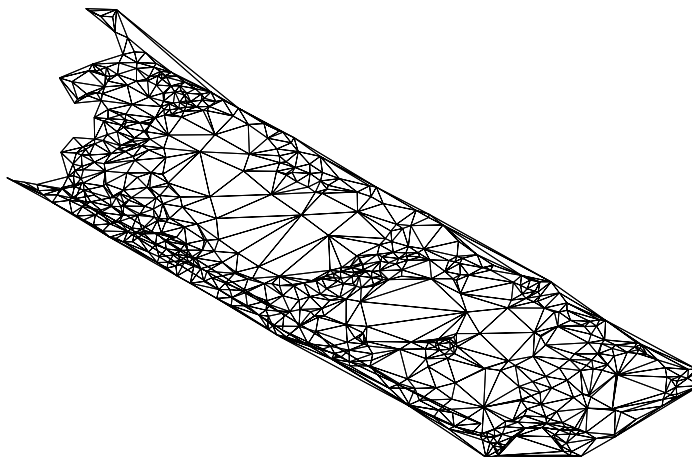

Figure 3-69 The EG surface before pasting the E Street surface
7. Before you paste the **E Street** surface on the **EG** surface, it is better to view the surfaces in a 3D view. To do so, select the **SE Isometric** option from the **Views** panel of the **View** tab; the **EG** surface is displayed in an isometric view, as shown in Figure 3-69.